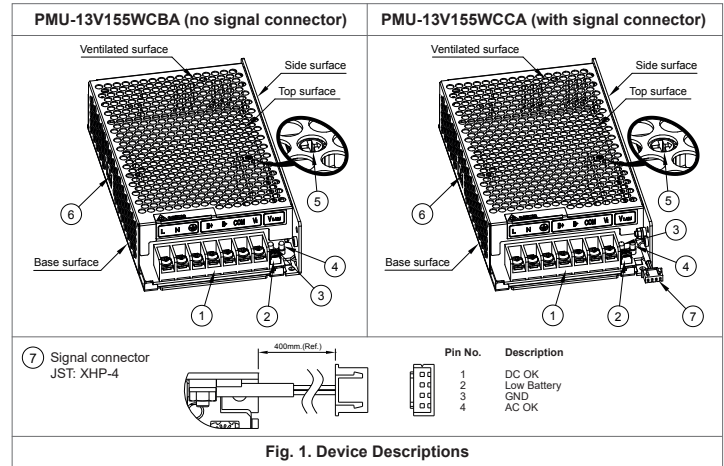

Fig. 1. Device Descriptions
- Must select correct AC input voltage range through selectable switch before turning on (Refer to Fig. 1, (6)).
Refer to Fig. 1.:
- ① Input & Output terminal block connector
- ② DC voltage adjustment potentiometer (12Vdc - 14Vdc)
- ③ Green LED ON = DC OK (Normal operation through mains supply or through battery when operating in buffering mode)
- ④ Red LED ON = Battery reverse polarity
- ⑤ Battery charging current adjustment potentiometer (Factory Setting: 1A)
Max charging current shall not exceed 1.5A (Refer to Fig. 1, (5)).
- ⑥ AC selectable switch
- ⑦ Signal connector - JST: XHP-4 (for PMU-13V155WCCA only)